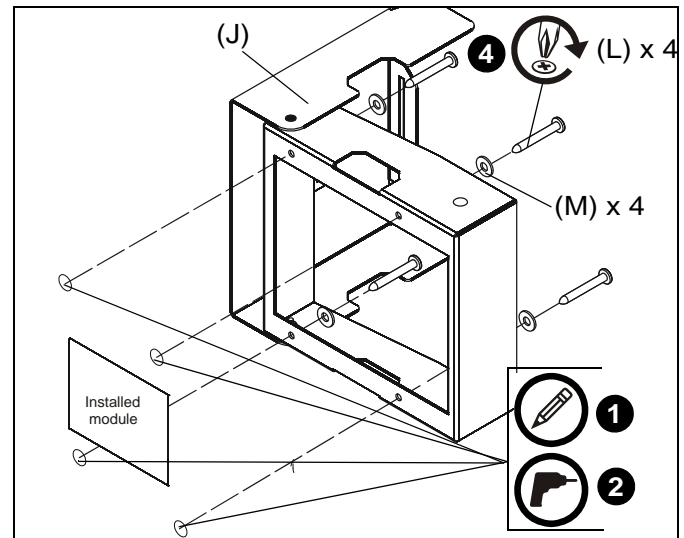

Figure 10
1. Using on wall security cover (J) as a template, mark four holes around the outside of installed electrical box.
3. Place on wall security cover (J) against wall lining up the holes on the back with the drilled holes. (See Figure 10)
4. Install four #10 x 1 3/4" Phillips screws (L) through #10 washers (M), holes in security cover (J) and into drilled holes. (See Figure 10)